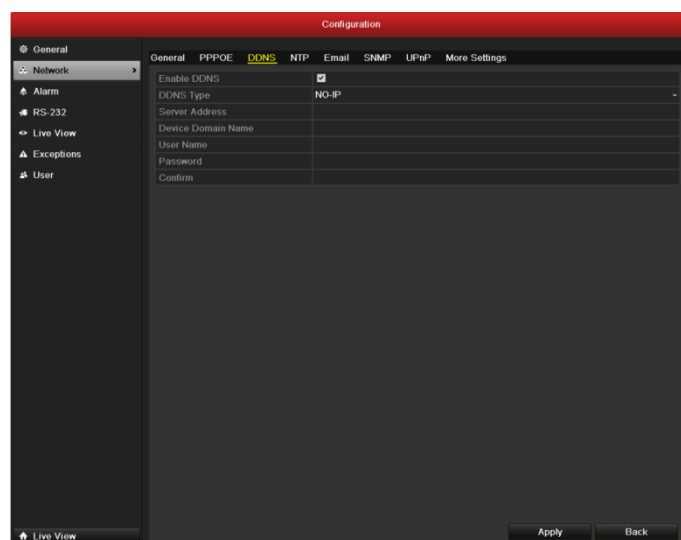

Figure 9. 5 DDNS Settings Interface
2. Select the **DDNS** tab to enter the DDNS Settings interface, as shown in Figure 9. 5.